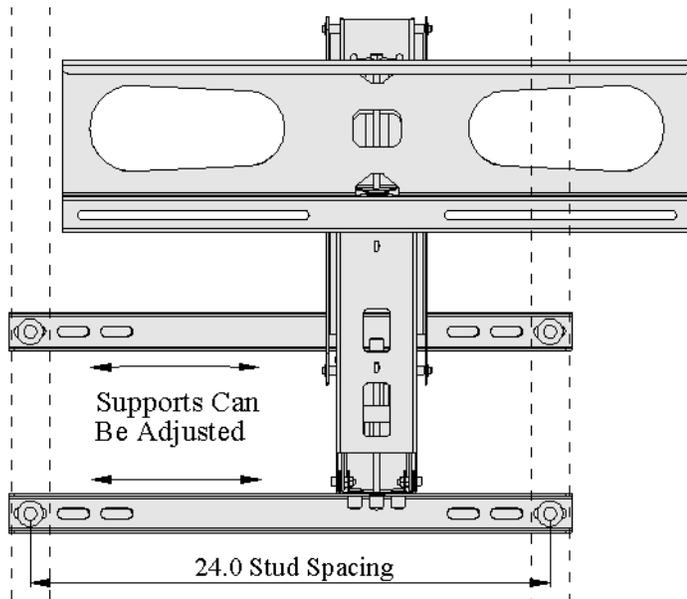
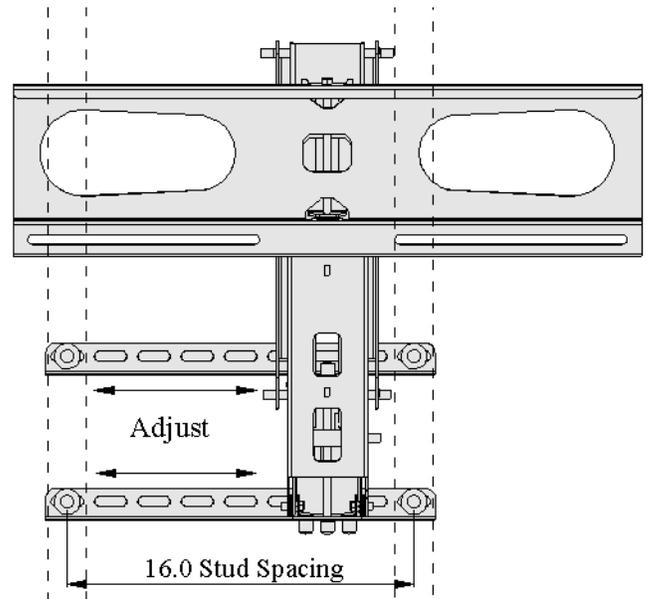

Figure 8, Adjusting Horizontal Supports on 24in Studs
Figure 9, Adjusting Horizontal Supports on 16in Studs
4. Move the Horizontal Supports to the side as needed, see Figure 8 and Figure 9 for examples.